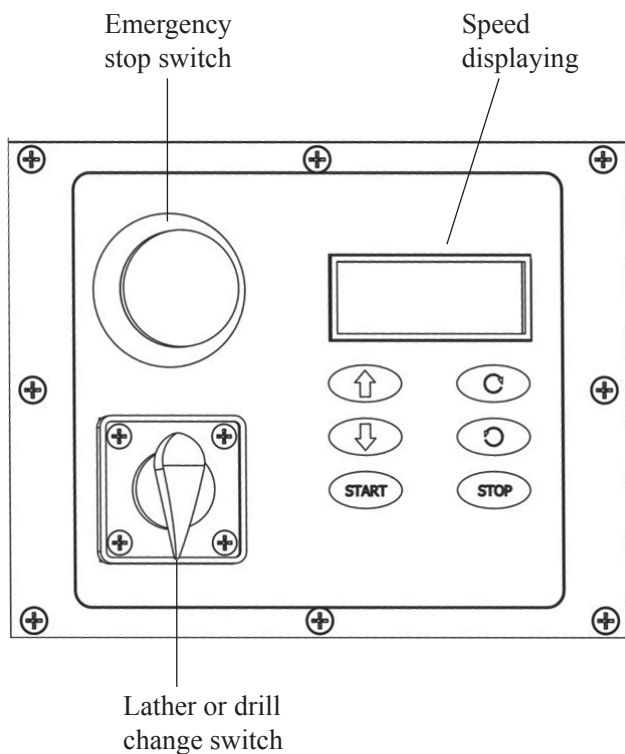

Figure 6 Main lathe control for test run
3. Familiarize yourself with the lathe controls shown in Figure 6. Make sure the STOP button is all the way down before continuing.
To get the most out of your machine, please take the time to familiarize yourself with the various controls and components shown in the Figures 6.